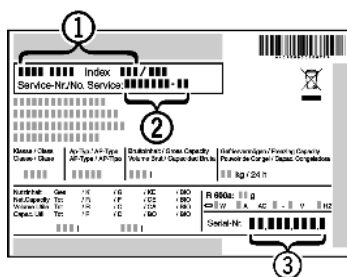

Fig. 5
- ▶ Read the appliance designation *Fig. 5 (1)*, service No. *Fig. 5 (2)* and serial No. *Fig. 5 (3)* off the type plate located inside the appliance on the left-hand side.
- ▶ Notify the customer service, specifying the fault, appliance designation *Fig. 5 (1)*, service No. *Fig. 5 (2)* and serial No. *Fig. 5 (3)*.